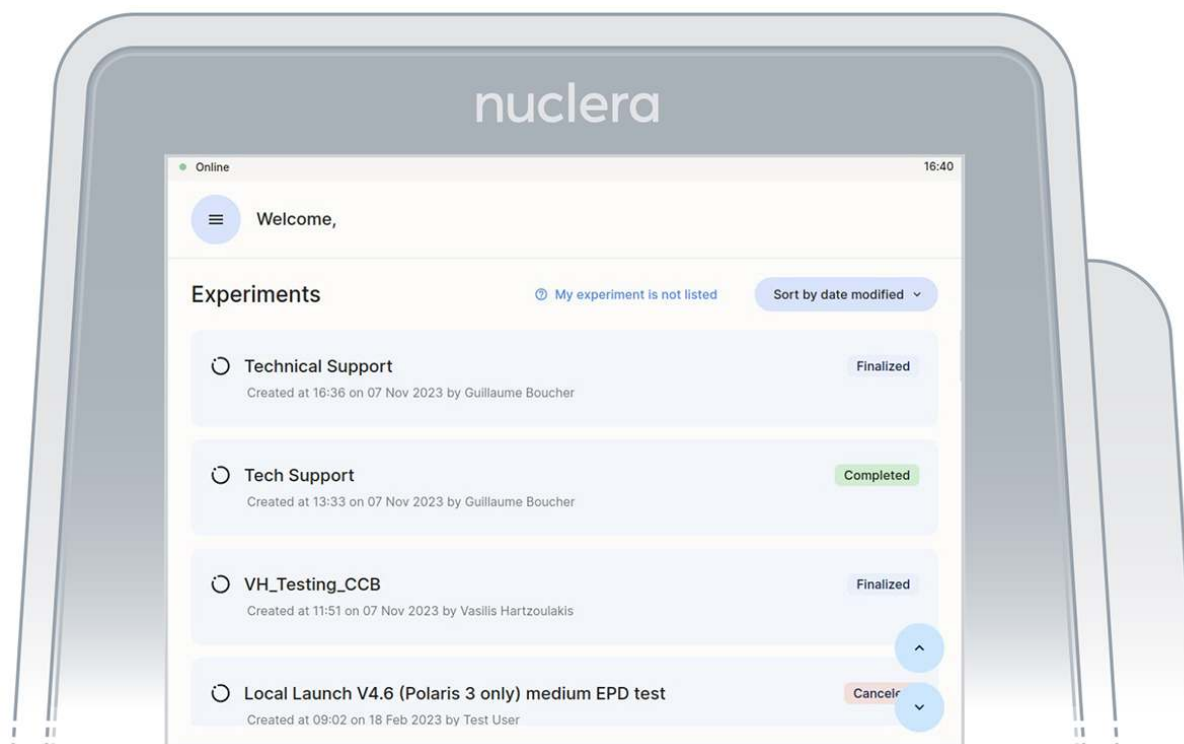

Figure 7: Instrument software welcome page with the list of finalized experiments
3. On the instrument software, select the experiment initially set up on eProtein Discovery software (Figure 7).